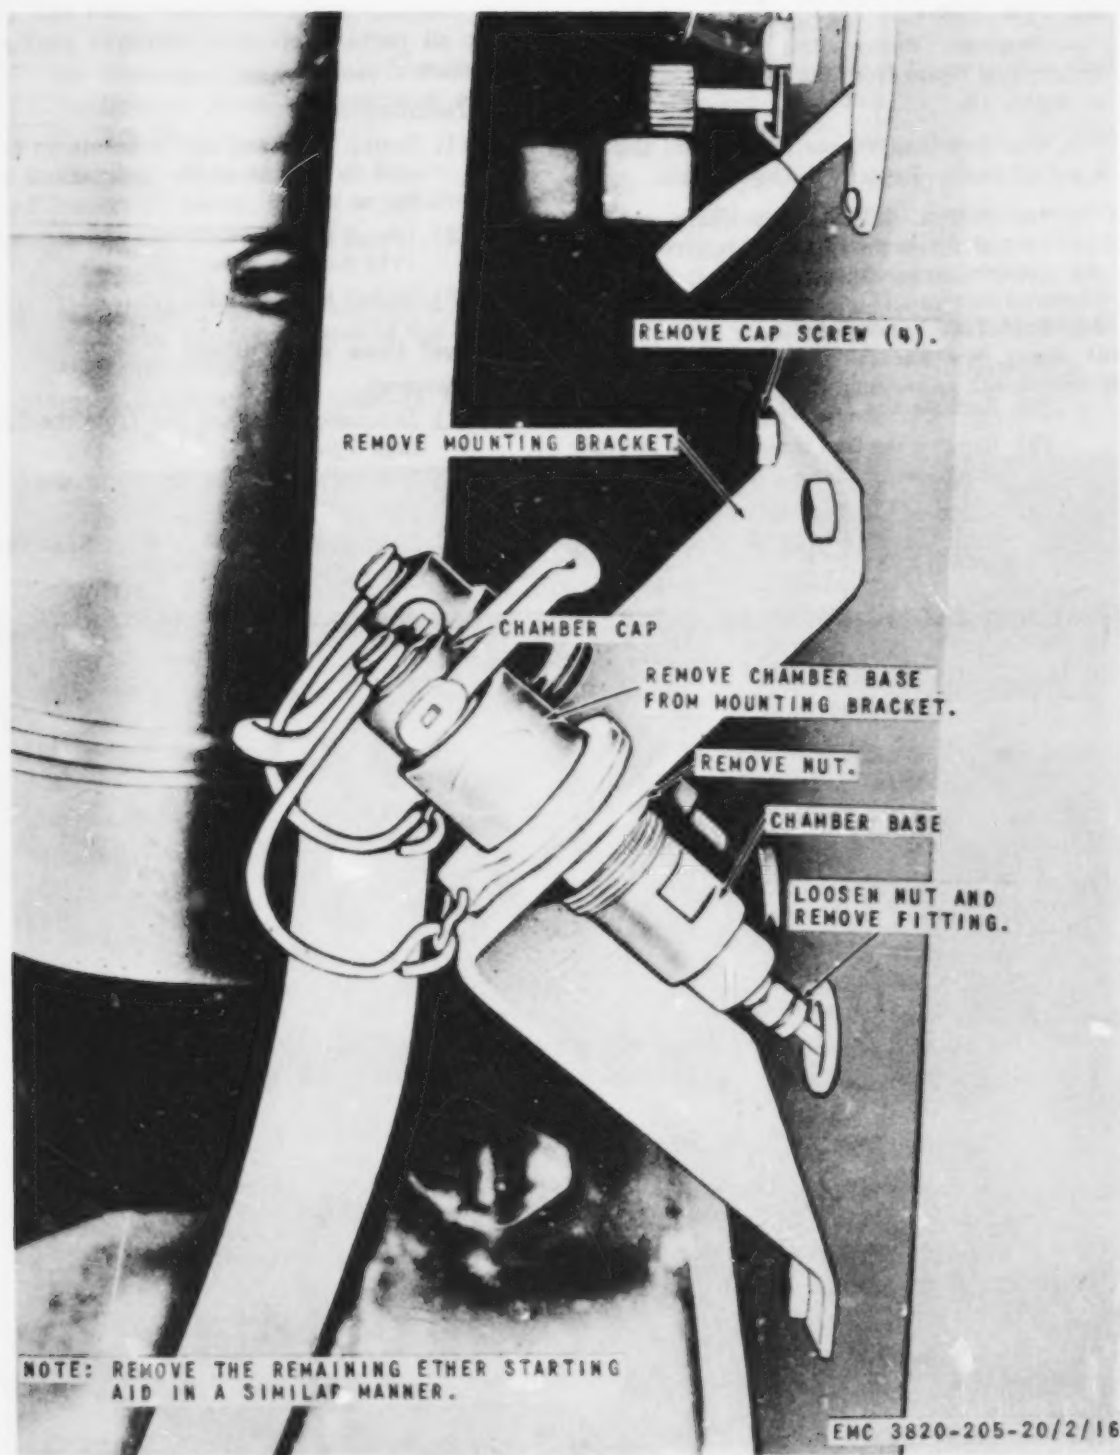

Figure 20. Ether starting aids and bracket, removal and installation.
- (1) Remove the ether starting aids and bracket from the instrument panel as instructed on figure 20.
- (2) Remove the ether starting aid lines from the intake manifolds (par. 60).
- (1) Install the ether starting aid lines on the intake manifolds (par. 60).
- (2) Install the ether starting aids and bracket on the instrument panel in reverse of the instructions on figure 20.